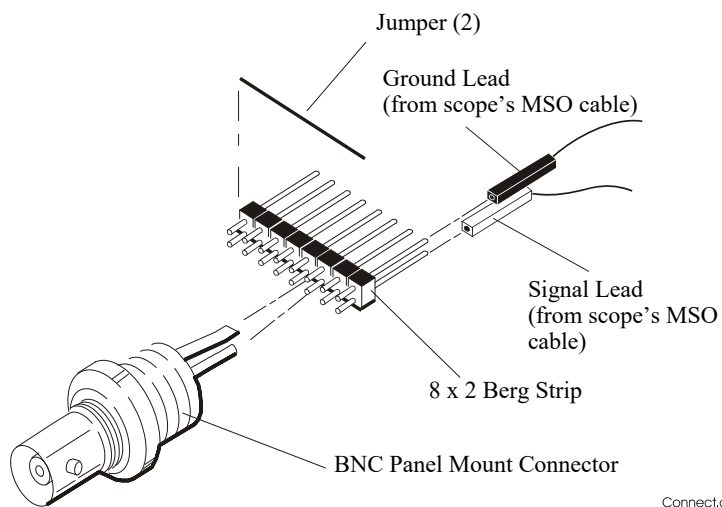

Figure 1 Constructing the 8-by-2 Connector
- 2 On one side of the Berg strip, solder a jumper wire to all of the pins (shown in **Figure 1** on page 24).